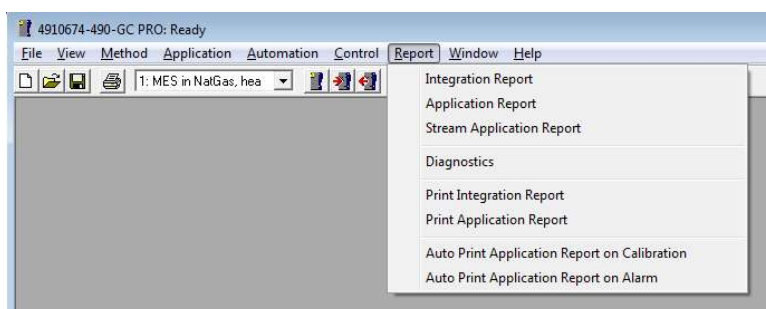

Figure 76: PROstation Reports
- Select: Report\ Report type, see Figure 76.